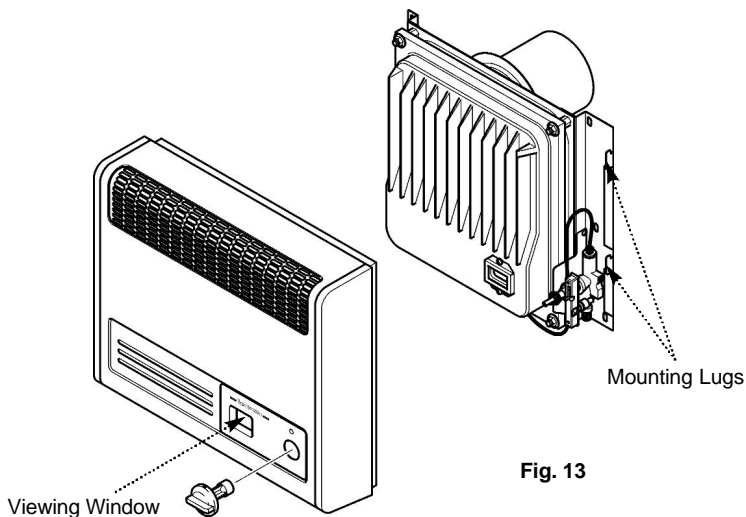

Fig. 13
3. Fit the outer case by locating the slots in the outer case rear strip onto the four mounting lugs on the wall brackets (Fig. 13).
4. Replace the control knob (Fig. 13).